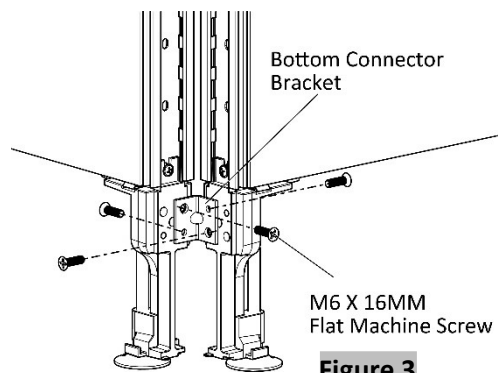

Figure 3
5. Securely fasten bottom corner bracket into the panel legs with four M6 X 16MM Flat Machine Screws, (Figure 3).